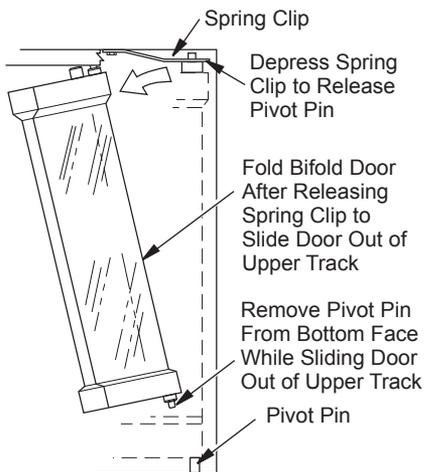

Figure 12 - Installing/Removing Glass Doors
2. With handle facing center of firebox opening insert lower pivot pin on door panel into hole in bottom outer edge of firebox opening (see Figure 12).
2. Fully fold frame assembly and slide upper edge towards center of firebox opening until the guide pins are free of the frame rail (see Figure 12, page 8).